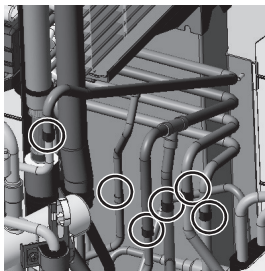

Figure 13
- (8) Remove the braze at the six areas that are located on the right side of the four pipes on the back of the accumulator. (See Figure 13.)